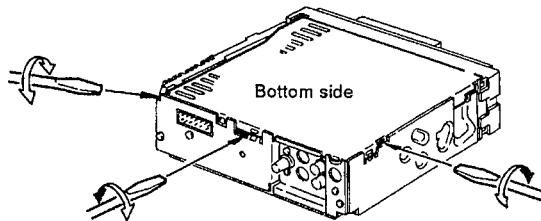

Fig. 4-2
- ◆ Removing the bottom cover (See Fig. 4-2)